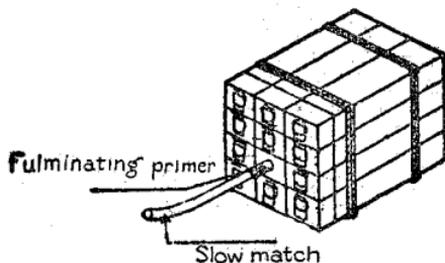

FIG. 91.—Concentrated charge.
1. *Concentrated charges* (fig. 91).—Packages of petards fastened together, the sockets at one end, made up as squarely as possible.